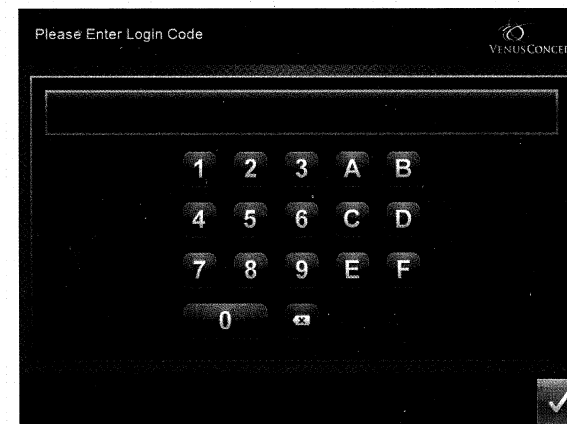

Figure 5-2. Login Screen
5. Verify that the system powers up and the login screen appears, as shown in Figure 5-2.
1. In the login screen (see Figure 5-2), enter the 8 character code which is provided with the installation documents, as shown in Figure 5-3.